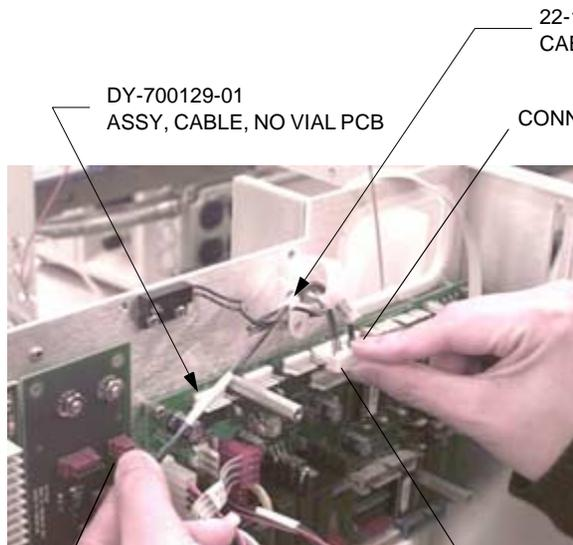

FIGURE 1.9.3
- 1.9.3 Install No Vial PCB Cable Assembly (DY-700129-01) into (J7) on DY-Flex PWA assembly and connect other ends to pin 1,2,3... (J16) on the motor head PCB. Attach magnetic proximity sensor into (J16) pins 4-6 next to the previous connector and install Cable Tie (22-119650-00) on the wires where indicated on figure 1.9.3.